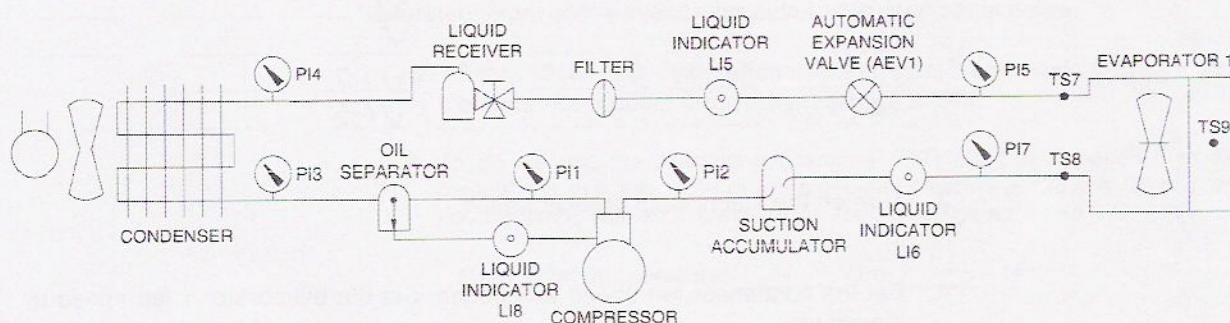

Figure 4-7. Refrigeration system using an automatic expansion valve.
The schematic diagram shown in Figure 4-7 is a typical refrigeration system using an automatic expansion valve (AEV1) as the metering device. Temperature and pressure sensing points are located along the system to indicate where measurements should be taken.
1. Open and close the manual valves to arrange the refrigeration system as shown in Figure 4-7. Figure A-2 in Appendix A may be used to assist in the proper set-up of the system.
All pressure and temperature test point locations are indicated on the diagrams in Figure 4-7 and Figure A-2.